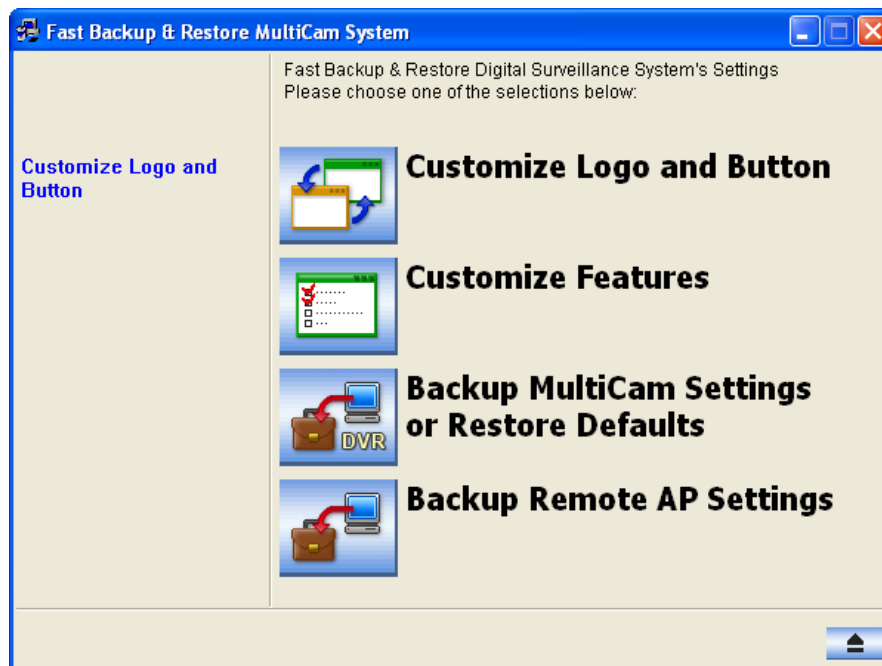

Figure 11-32
1. In the FBR window (Figure 11-32), click the **Customize Logo and Button** icon, select **DVR**, and then select **Custom Logo**. This window appears.
1. In the FBR Window (Figure 11-32), click the **Customize Features** icon to display this dialog box.
1. In the FBR window (Figure 11-32), click the **Backup System Settings or Restore Defaults** icon, and select **Backup Current System**. This dialog box appears.